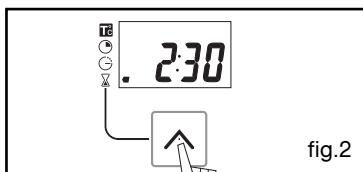

fig.2
- Press the " ^ " button to confirm or wait a few seconds (fig.2).